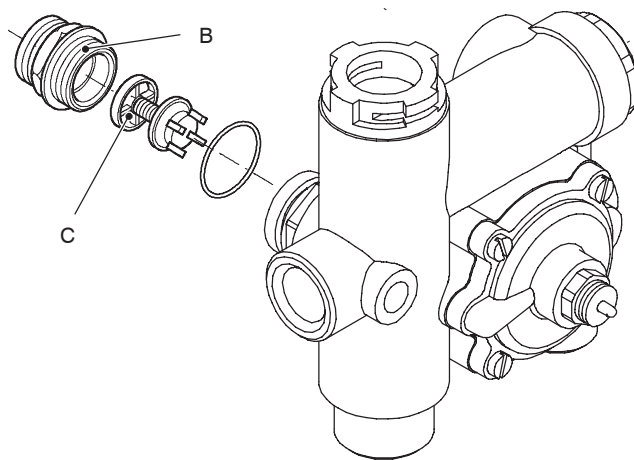

Fig. 2
- 4 Unscrew the connector B and remove the by-pass valve C (Fig. 2).
- 5 Reassemble the by-pass valve as illustrated in Fig. 2 reversing the order of removal.